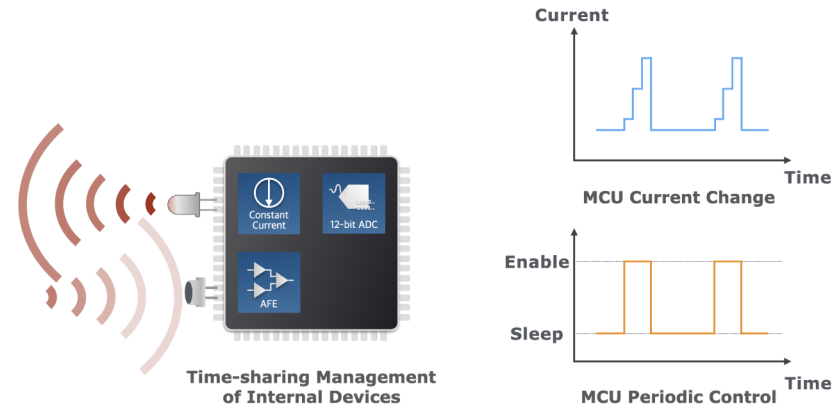

Figure 6. MCU Time-sharing Management for Low Power Consumption Technology
- MCU time-sharing management of internal components on/off, to accurately control product Sleep cycle and reduce product power consumption (Figure 6)